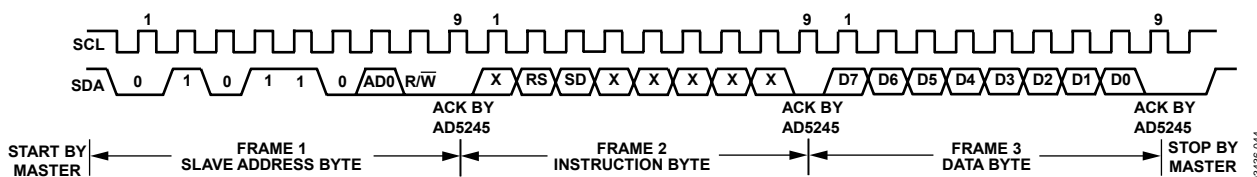
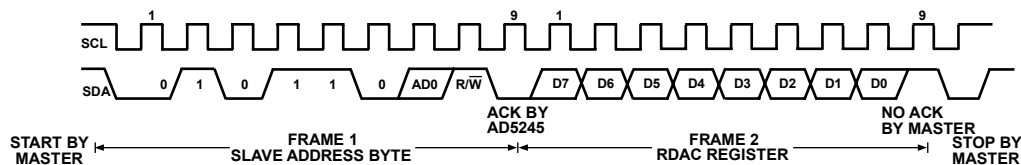

Figure 45. Writing to the RDAC Register
Figure 46. Reading Data from a Previously Selected RDAC Register in Write Mode
1. The master initiates data transfer by establishing a START condition, which is when a high-to-low transition on the SDA line occurs while SCL is high (see Figure 45). The next byte is the slave address byte, which consists of the 7-bit slave address followed by an $\overline{R/\overline{W}}$ bit (this bit determines whether data is read from or written to the slave device). The AD5245 has one configurable address bit, AD0 (see Table 8).
3. After acknowledging the instruction byte, the last byte in write mode is the data byte. Data is transmitted over the serial bus in sequences of nine clock pulses (eight data bits followed by an acknowledge bit). The transitions on the SDA line must occur during the low period of SCL and remain stable during the high period of SCL (see Figure 45).
4. In read mode, the data byte follows immediately after the acknowledgment of the slave address byte. Data is transmitted over the serial bus in sequences of nine clock pulses (a slight difference with write mode, in which eight data bits are followed by an acknowledge bit). Similarly, the transitions on the SDA line must occur during the low period of SCL and remain stable during the high period of SCL (see Figure 46).
5. After all data bits have been read or written, a STOP condition is established by the master. A STOP condition is defined as a low-to-high transition on the SDA line while SCL is high. In write mode, the master pulls the SDA line high during the 10th clock pulse to establish a STOP condition (see Figure 45). In read mode, the master issues a no acknowledge for the ninth clock pulse (that is, the SDA line remains high). The master then brings the SDA line low before the 10th clock pulse, which goes high to establish a STOP condition (see Figure 46).